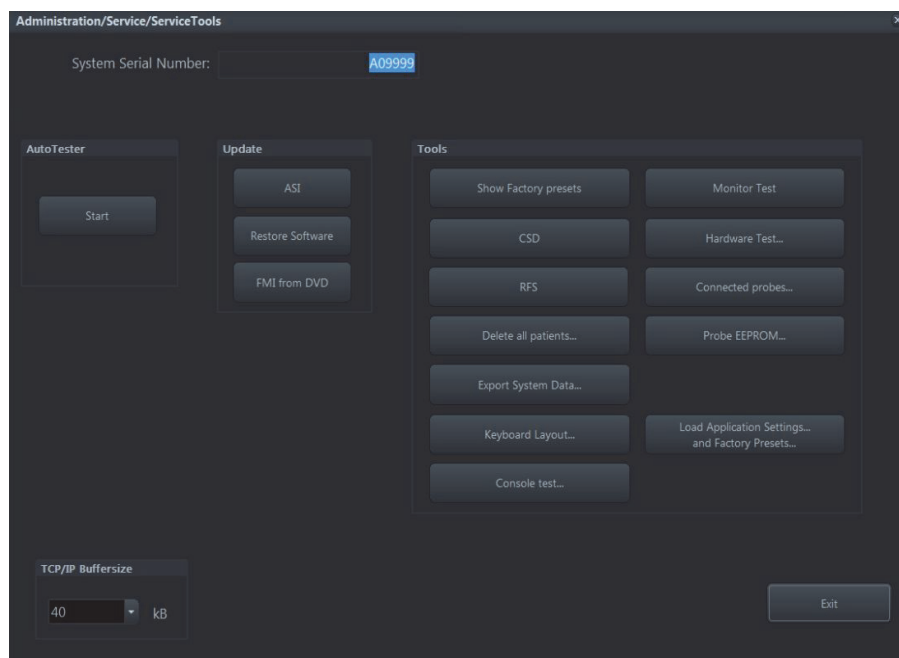

Figure 8-3 Service Tools
- 9.) Click the FMI FROM DVD button (see: Figure 8-3 on page 8-8) for updating the System Software.